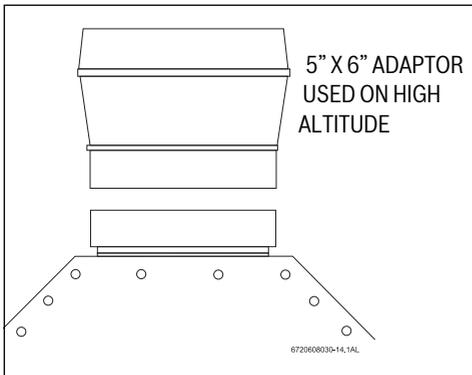

Fig. 10 Vent Adaptor for High Altitude Installations
- ▶ A 5 inch diameter gas vent constructed of double wall Type B gas vent is recommended. A 6 inch vent is required in elevations greater than 2000 feet, see Fig. 10. Under no circumstances should the vent pipe be reduced in size.